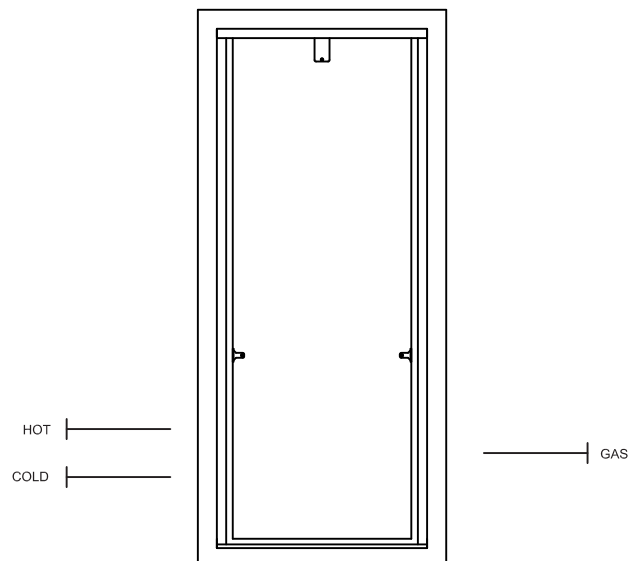

Figure 2: Piping Locations.
- The recess box is supplied with 4 pre-punched holes on the sides to allow for gas and water piping. Suggestions for locations of the piping are shown in Figure 2. Smaller holes are provided for electrical wires on each side. Additional holes can be drilled in the recess box to accommodate piping or electrical connections.